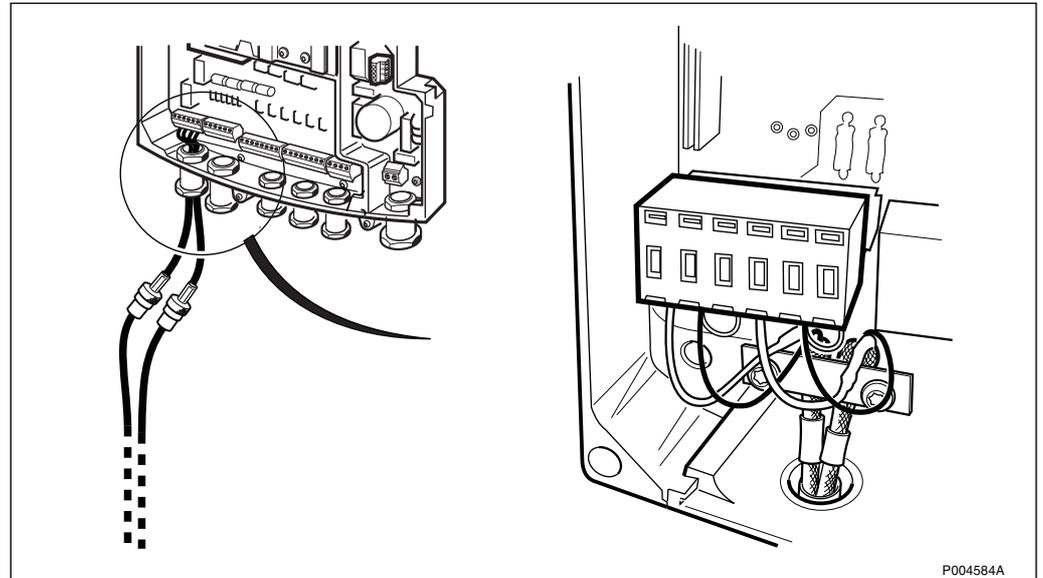

Figure 295 Principle of connecting coaxial PCM cable
3. See the *Figure 295 on page 241* to see the principle of connecting coaxial PCM cable.